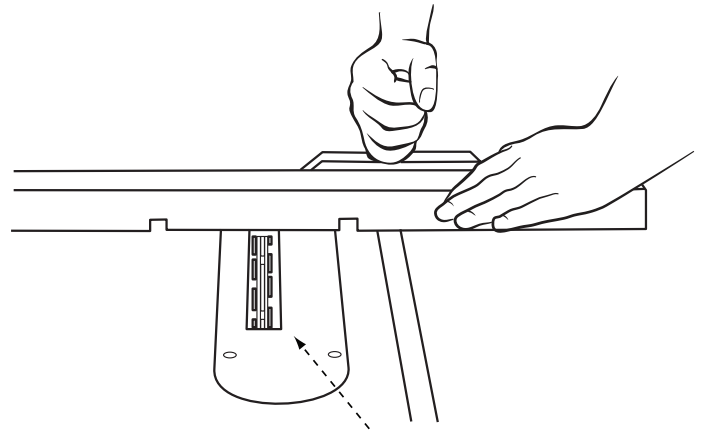

FIGURE 27
- The accessory dado head set throat plate, shown in Figure 27, must be used in place of the standard throat plate. Be sure the throat plate is level to the table before you proceed.